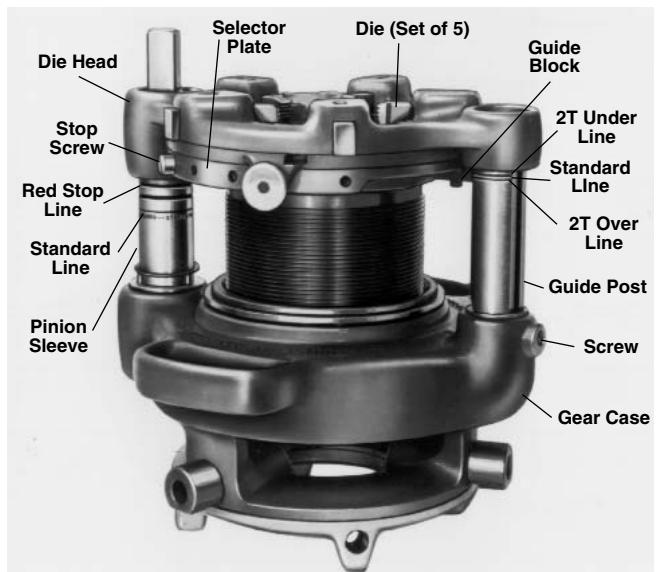

Figure 17 – No. 141 Geared Threader with 844 Drive Bar Installed (No. 161 Threader Similar)
1. Remove stop screw (*Figure 17*) from selector plate.
IMPORTANT! Allow approximately $\frac{3}{4}$ " of V-shaped grooves exposed in front of chuck jaws (*Figure 17*) to allow space for oiling.
5. 141 and 161 – Release foot switch when red STOP line appears on pinion sleeve (*Figure 17*).